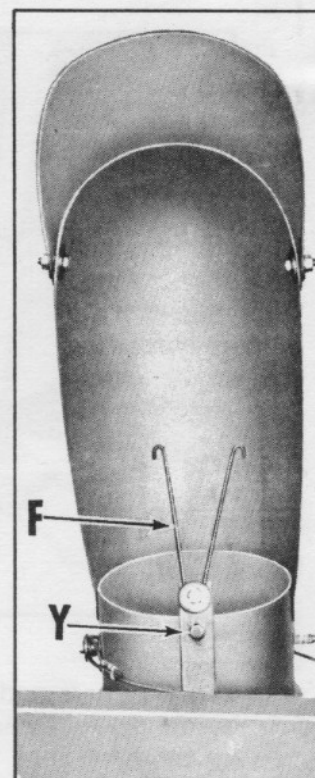

Fig. 13
Install finger deflector as shown (Fig. 13) with cap screw claw washer and nut; tighten securely. Thread 1/2" stop bolt through hole (Y) in stack; secure with hex nut.